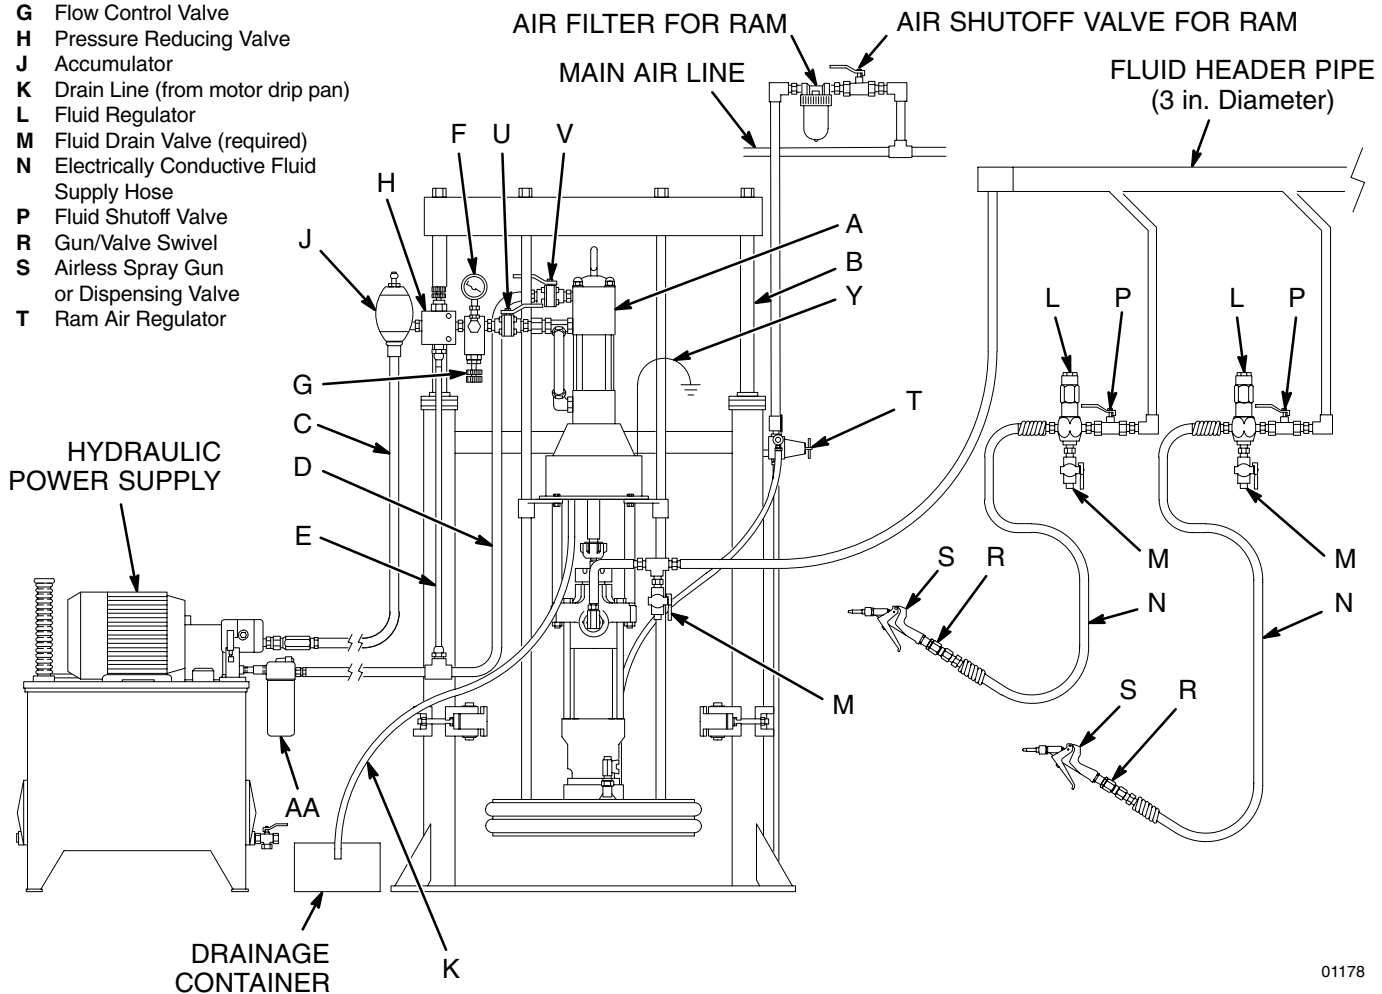

Fig. 4
The Typical Installation shown in Fig. 4 is only a guide for selecting and installing system components and accessories. Contact your Graco distributor for assistance in designing a system to suit your particular needs.
Mount the pump (A) to suit the type of installation planned. Fig. 4 on page 10 illustrates a ram-mounted pump in a multi-gun header system. Pump dimensions and the mounting hole layout are shown on pages 36 and 37.
On the hydraulic supply line (C), install the following accessories in the order shown in Fig. 4, using adapters as necessary:
- **A shutoff valve (U)** to isolate the pump for servicing.
- **A fluid pressure gauge (F)** to monitor hydraulic oil pressure to the motor and to avoid overpressurizing the motor or displacement pump, and **a pressure- and temperature-compensated flow control valve (G)** to prevent the motor from running too fast and possibly damaging itself.
- **A pressure reducing valve (H), with a drain line (E)** running into the hydraulic return line (D).
- **An accumulator (J)** to reduce the hammering effect caused by the motor reversing direction.
- On the hydraulic return line (D),** install the following accessories in the order shown in Fig. 4, using adapters as necessary:
- **A shutoff valve (V)** to isolate the pump for servicing.
- **A filter (AA)** of 10 micron size.
Install the following accessories in the positions shown in Fig. 4, using adapters as necessary:
- Install a **fluid shutoff valve (P)** at each gun drop, to isolate the gun and fluid accessories for servicing.
- Install a **fluid drain valve (M)** near the pump fluid outlet, and at each gun station. The drain valves are required in your system to relieve fluid pressure in the displacement pump, hose and gun (see the **WARNING** at left). Drain valves at the gun stations may be mounted in the base of a **fluid regulator (L)**, using an adapter.
- **A fluid regulator (L)** controls fluid pressure to the gun/valve, and dampens pressure surges.
- **A gun or valve (S)** dispenses the fluid. The gun shown in Fig. 4 is a high pressure dispensing gun for highly viscous fluids.
- **A gun swivel (R)** allows freer gun movement.
Refer to Fig. 4 on page 10. Check the hydraulic fluid level before each use, and add fluid as necessary. Make certain that the supply line shutoff valve (U) and the return line shutoff valve (V) are closed, then start the hydraulic power supply.